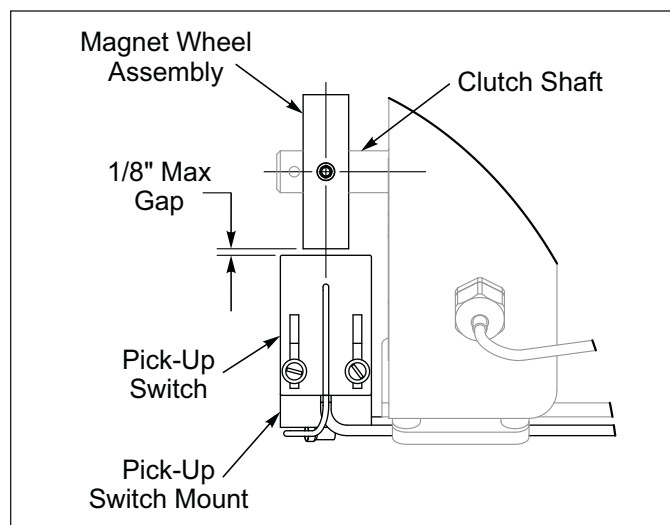

Figure 2-32: Pick-Up Switch Positioning
6. Adjust the Pick-Up Switch and Pick-Up Switch Bracket so the centerline of the Magnet Wheel Assembly and Pick-Up Switch are horizontally and vertically aligned with maximum 1/8" between the Magnet Wheel Assembly and Pick-Up Switch. **See Figures 2-32.** Tighten all screws.